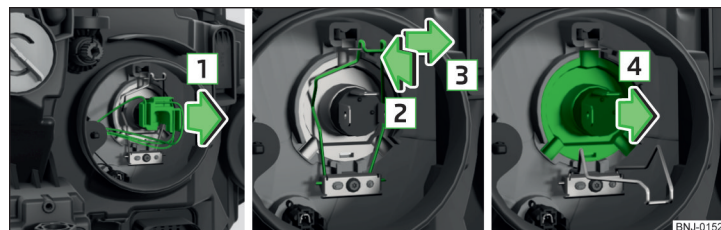

Fig. 208 Removing bulbs for low and main beam
- Press the connector latch and remove the plug connector by jiggling in the direction of arrow **1** » Fig. 208.